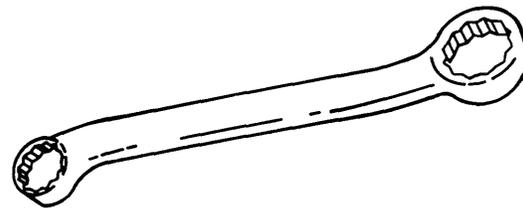
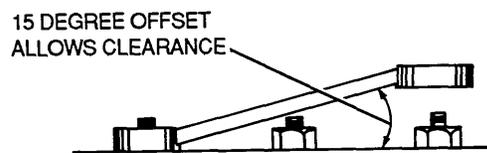

Figure 4-22. Box End Wrenches
Figure 4-23. Box-End Wrench Offset
(2) **Box-end wrenches.** Box-end wrenches have a head on each end of a bar, as shown in figure 4-22. The head completely surrounds the nut or bolt, which decreases the chances that the wrench will slip off the work. Box-end wrenches are available with 6-point and 12-point openings. These openings are offset from the shank at a 15-degree angle to allow clearance, as shown in figure 4-23. A box-end wrench should be used whenever possible because it provides the best protection to both the user and the equipment. These wrenches are sized the same as open-end wrenches.